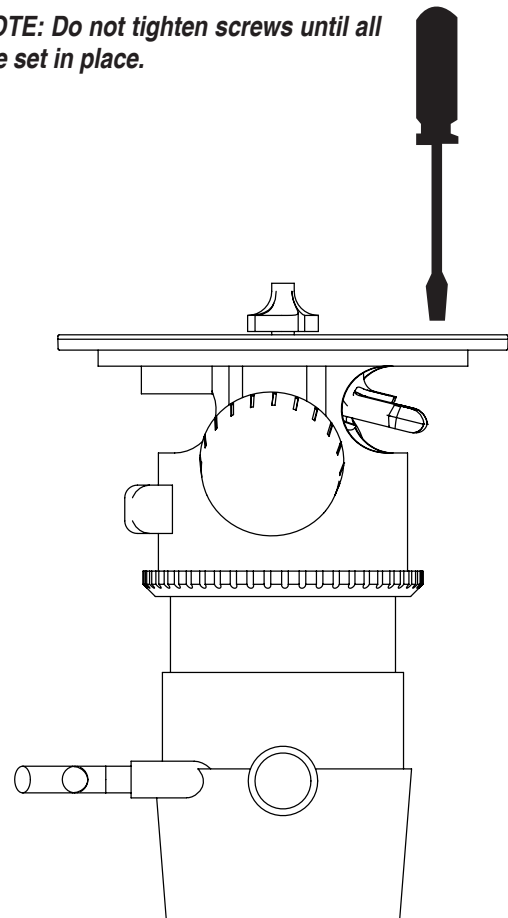

Fig. 4
5. Use the screws set aside from Step 1 to mount the router hood to the router. (Fig. 4)